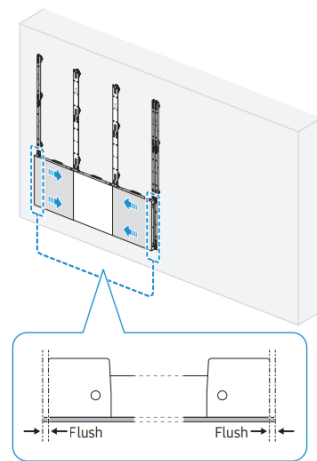

Fig7. Check flushes
- ⑥ When the cabinet installation is finished, slide the LED modules toward the center and check the flushes between the cabinets and the LED modules at both ends. [Fig.7]